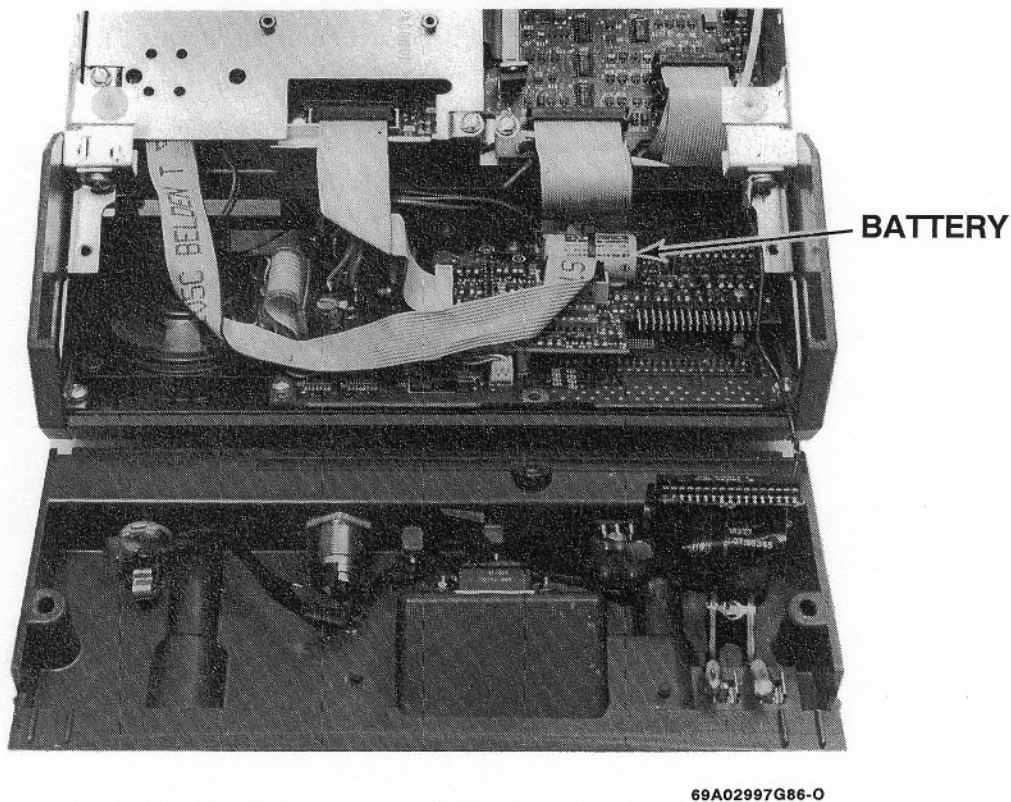

Figure 6. Battery Location
Step 2. The battery is located on the Interconnection board and mounted with two tie straps as shown in Figure 6.